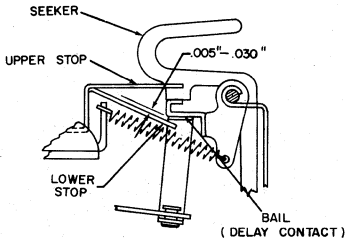

Figure 19
- Form the SDC bail stop for .005" to .030" clearance to the SDC bail when a bail operating seeker is fully operated, operating the bail. This allows for operation under power without the probability of the nylon operator coming off of the bail or contacts (Figure 19).